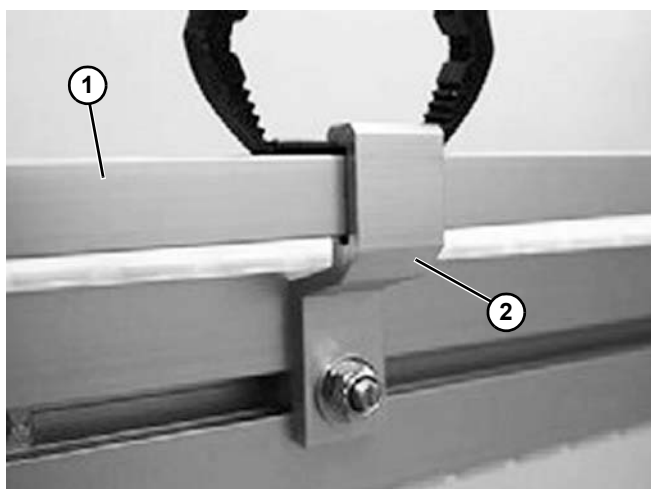

Figure 106
2. Attach the guide rail (**Figure 106, item 1**) to the bracket (**Figure 106, item 2**). Clamp the spring pin into the slot between bracket and guide rail to the fixed position.